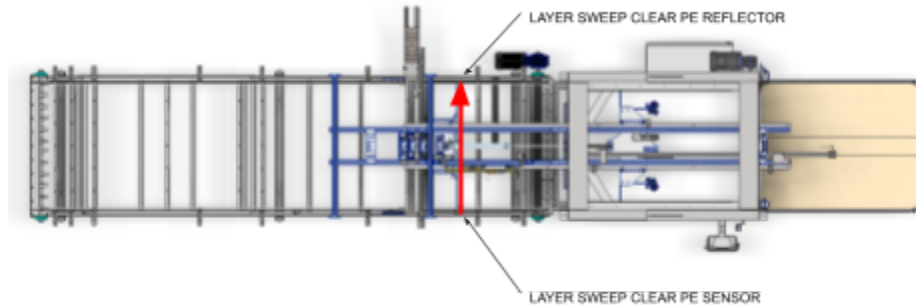

Fig. 17: Layer Sweep Clear PE Sensor and Reflector
9. The Layer Sweep will travel to the L Sweep at Arm Drop PROX sensor, advancing the layer of cans partially into the Palletizer. With the Layer Sweep at the Mid Position PROX, the Layer Sweep Clear Sensor (Fig. 17) must see itself in the reflector on the opposite side of the Conveyor. The Layer Sweep will then lower and sweep the layer of cans onto the pallet.